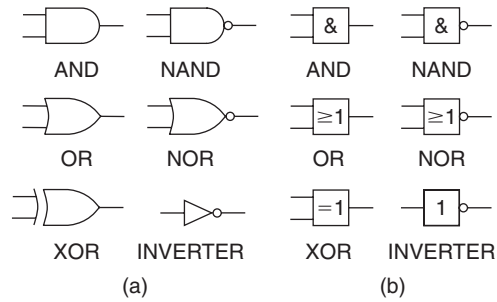

Figure 13.3 Logic gate symbols: (a) international, and (b) BS symbols
The standard actions of the four types of gate mentioned are represented on diagrams by the symbols shown in Figure 13.3. Note that the British Standard (BS) symbols (now seldom used except in manufacturers' data-books) differ from the international symbols which will be found in most logic diagrams. Both sets of symbols should be known. The international symbols are sometimes described as United States Military Specification or Mil-spec.